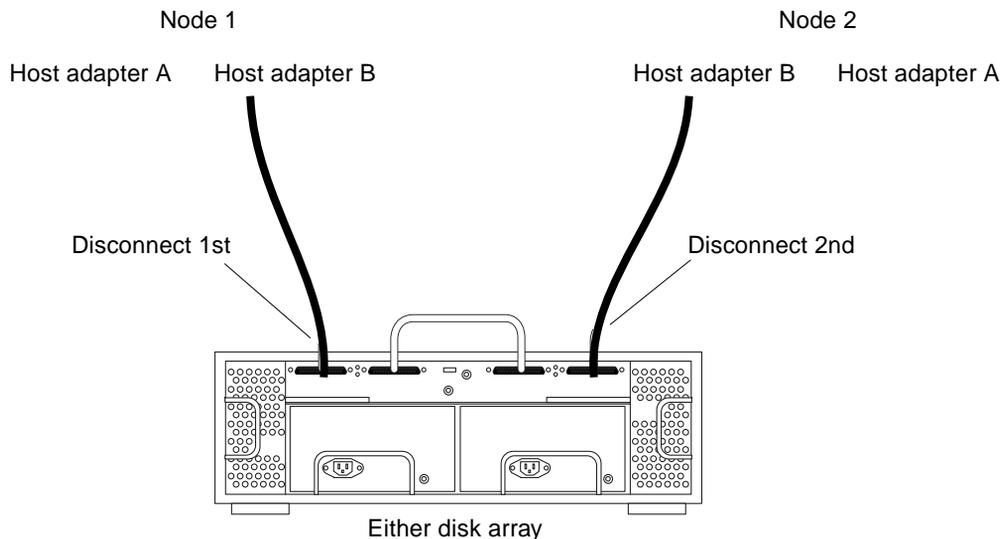

FIGURE 5-4 Disconnecting the SCSI Cables
3. Disconnect the SCSI cables from the StorEdge D1000 disk array, removing them in the order that is shown in FIGURE 5-4.
6. **Connect the SCSI cables to the new StorEdge D1000 disk array, reversing the order they were disconnected, as shown in FIGURE 5-4.**